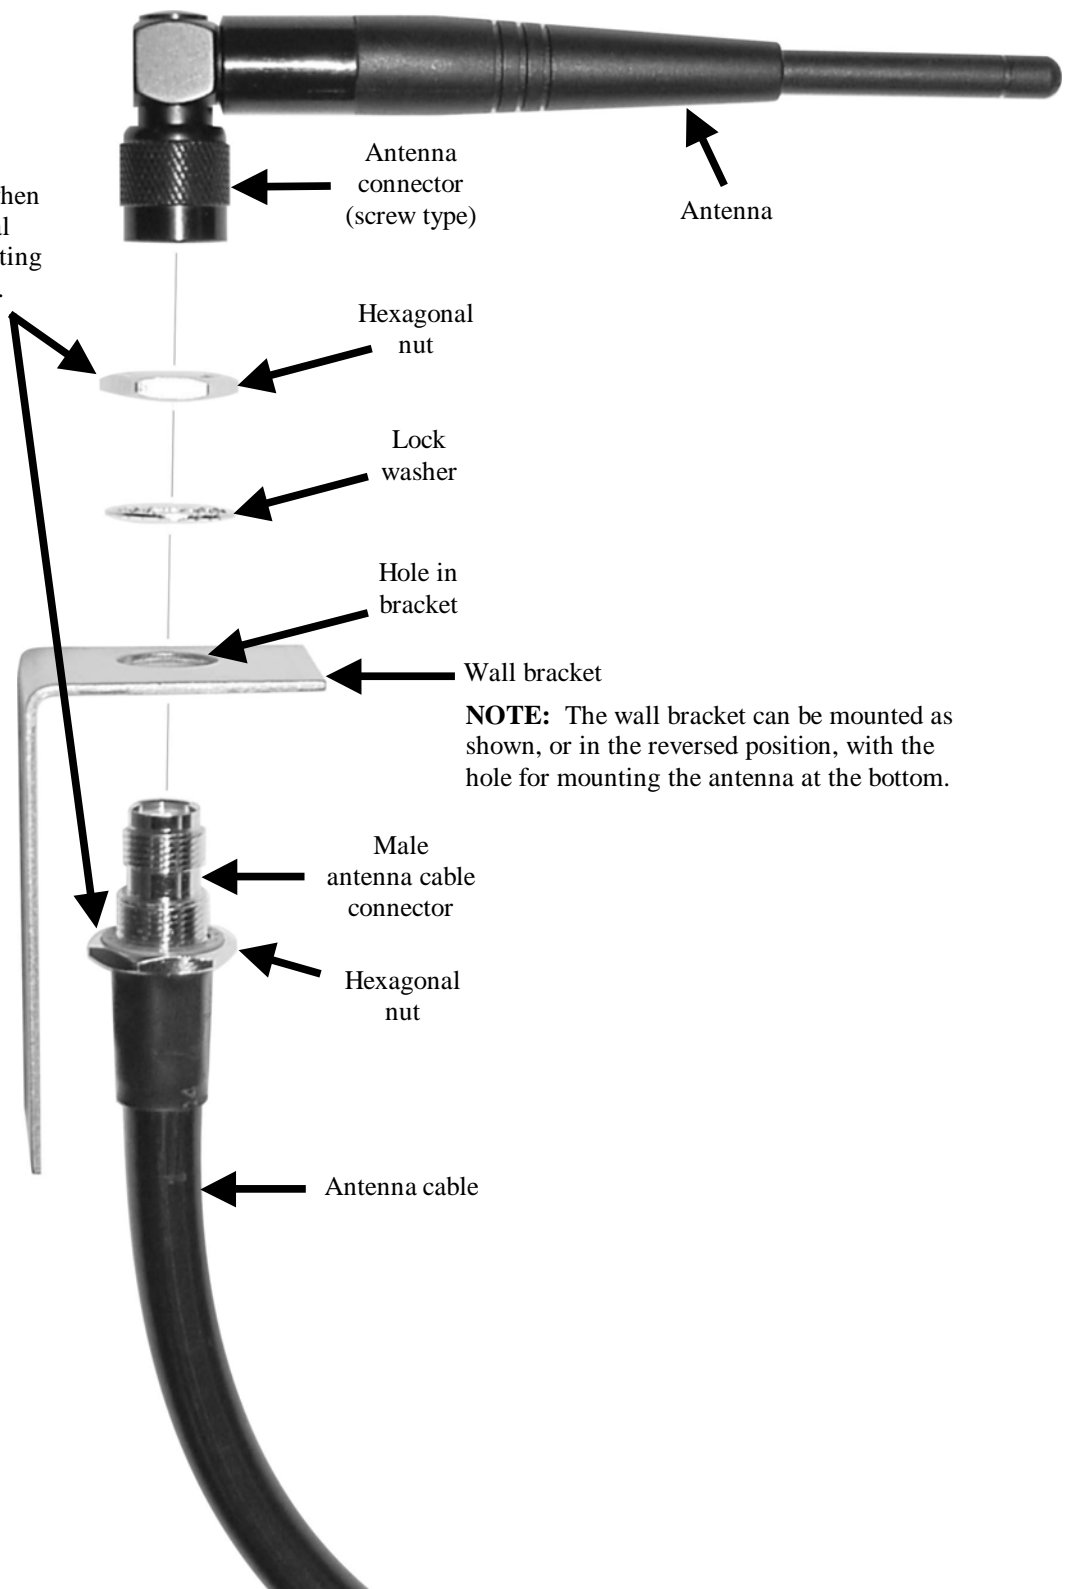

Figure 2. Antenna mounting on wall bracket
- Insert the antenna cable connector through the hole in the mounting bracket as shown in Figure 2, and screw the hexagonal nut onto the connector to secure it in place on the bracket.